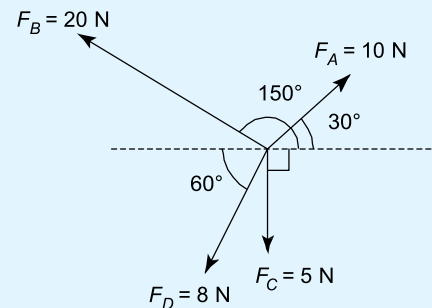

Figure 5.34
12. With reference to Figure 5.34, which of the following statements is false?